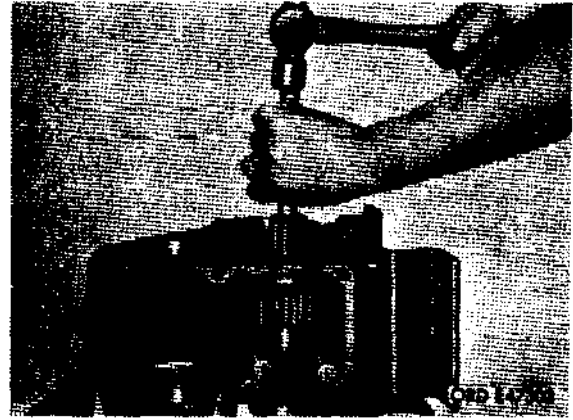

Figure 515. Removing input shaft
(7) Remove input shaft (fig. 515).